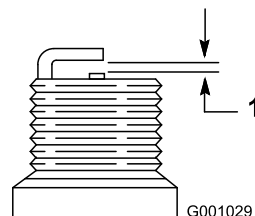

Figure 25
4. Set the gap between the electrodes on a new spark plug at 0.76 mm (0.030 inch) as shown in Figure 25.